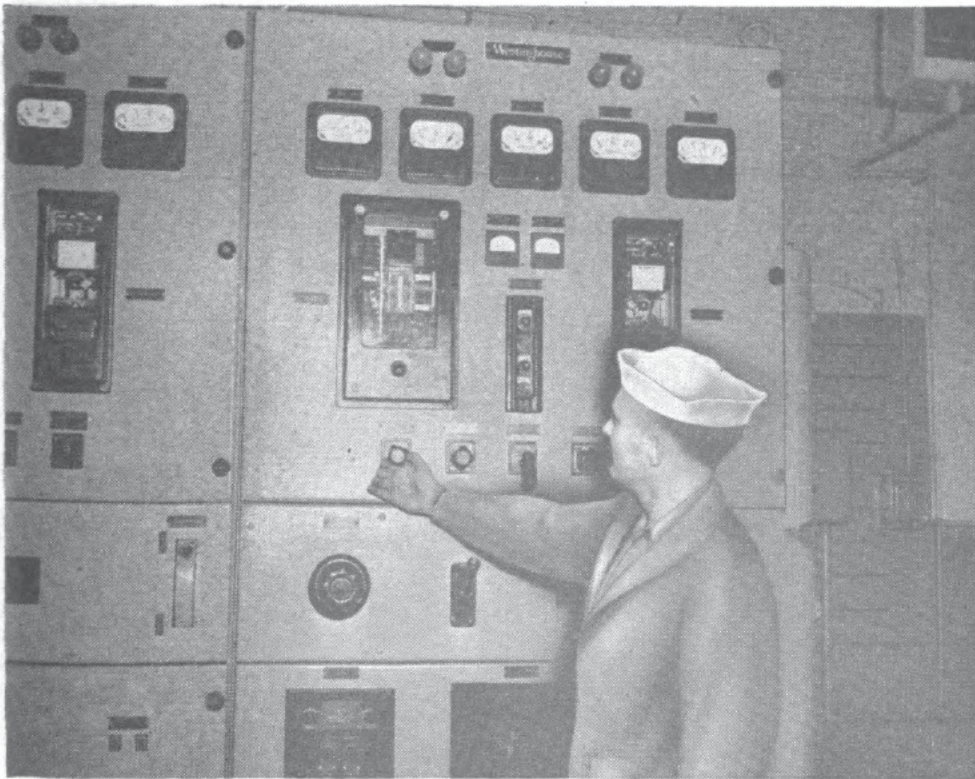

Figure 9-34.—Placing the voltage regulator in control.
11. Place the voltage regulator in control by turning the voltage regulator switch to the ON or AUTOMATIC position (fig. 9-34). Check the a-c voltmeter to see if the voltage reading has changed from the rated value of 4,160 volts. If it has, adjust the voltage regulator rheostat until normal voltage is obtained: